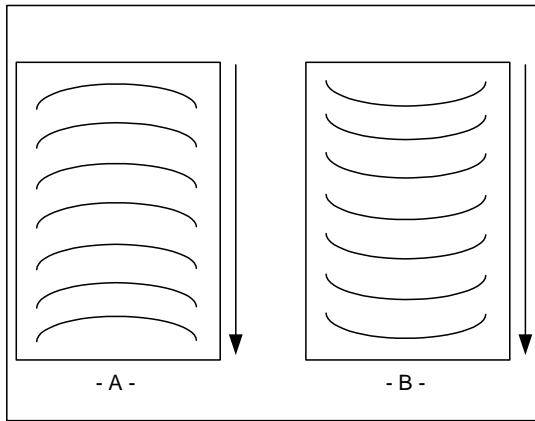

Figure 39
1. “D” waves in the image (Fig. 39 A).
2. “D” waves in the laminate (Fig. 39 B).